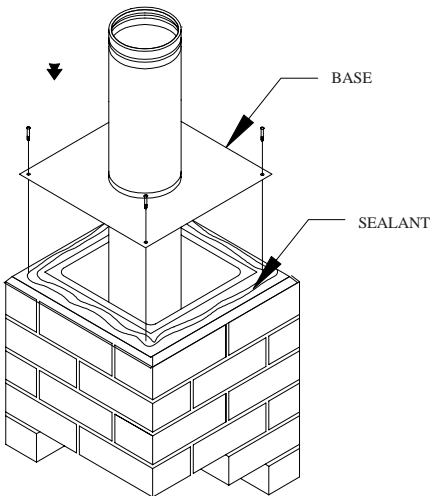

Fig. 25
**STEP ONE:** Center the base plate on the top of the masonry chimney as shown in Fig. 25. Trim to fit the chimney as required. Use non-hardening sealant to seal the base plate to the masonry chimney, but this can be done after the liner has been lowered into place. Anchors or screws are recommended but not required, as the base plate will ultimately be supporting the entire weight of the installation.